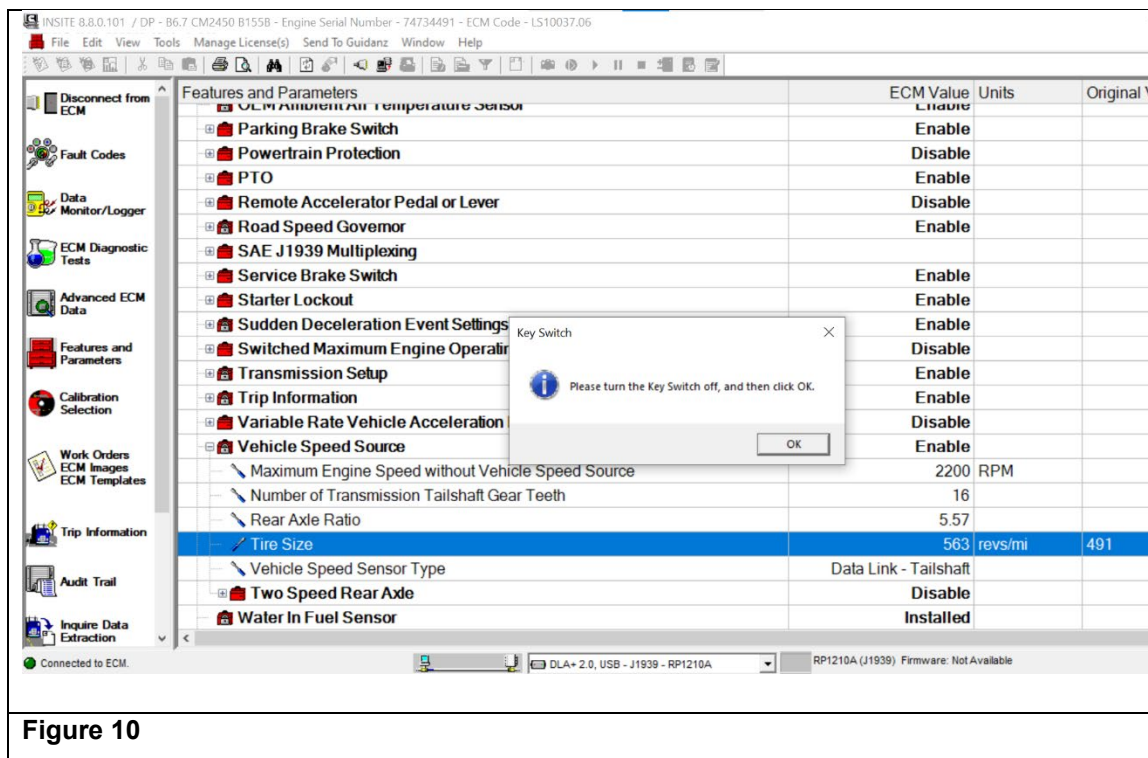

Figure 10
14. Turn key switch ON, and click OK. (See Figure 10.)